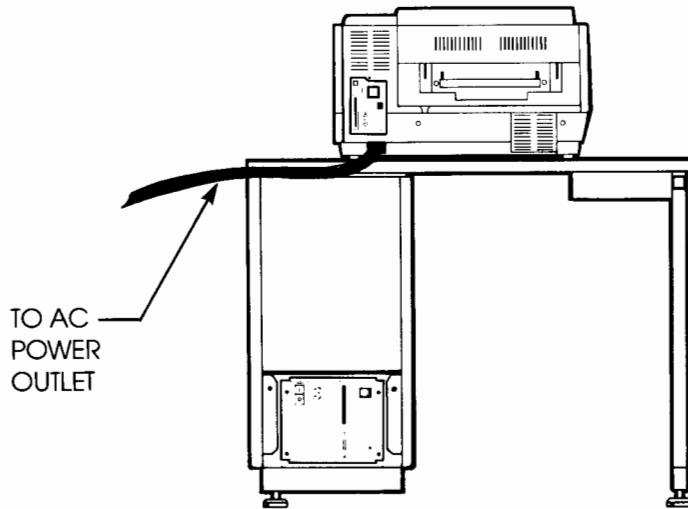

Figure 3-2. Connecting Printer's Power Cord
- d. Connect the printer's AC power cord to the AC input power receptacle on the printer and plug the other end into the AC power outlet (see figure 3-2).